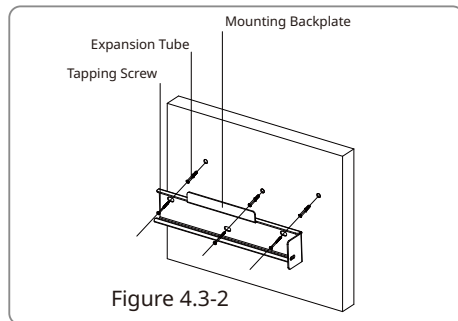

Figure 4.3-2
2. Use the expansion screws in the accessory pack to fix the back plate on the wall, as shown in Figure 4.3-2.